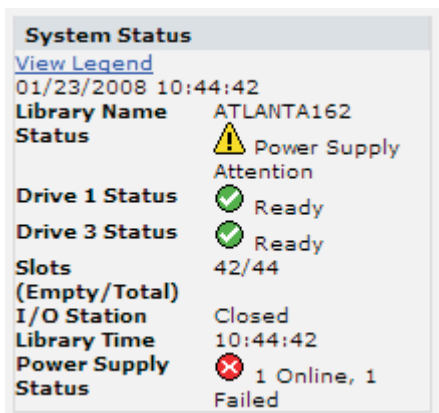

Figure 2-6. 4U library System status screen that is showing a power supply failure
- The Power Supply status will display if redundant power is being used with a 4U library, and the library was manufactured after March 14, 2008. If a redundant power supply fails, the System status screen displays as shown in Figure 2-6.